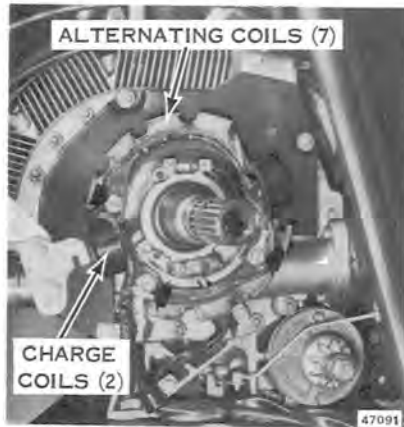

Figure 7-24
3. Remove three screws and lockwashers securing the alternator and charge coil assembly. Remove screw holding wiring harness. See Figure 7-24.